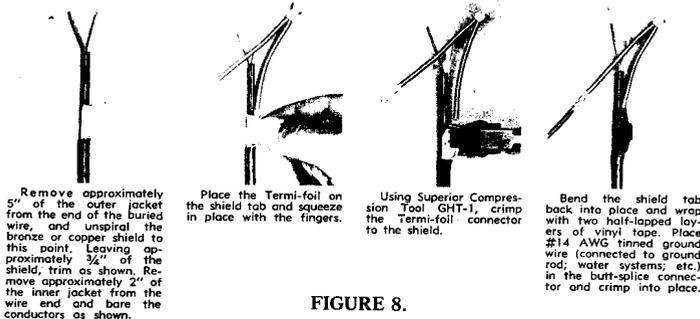

FIGURE 8.
- b. Remove the inner jacket up to the bronze tape. Position the grounding harness on the wire as shown in Figure 8, and fasten securely with a compression tool.